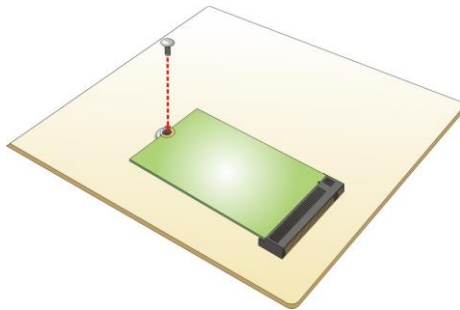

Figure 3-5: Securing the M.2 Module
Step 4: Secure the M.2 module with the previously removed retention screw (Figure 3-5).